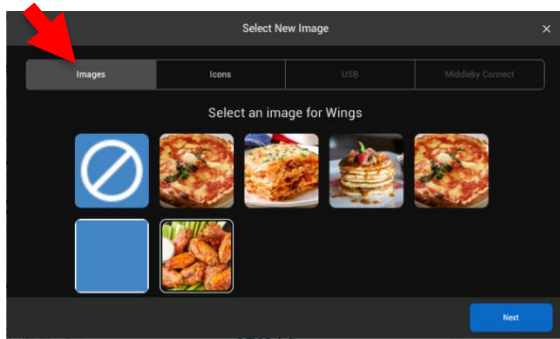

Figure 44 - Edit Recipe Picture
- Click on the  icon to navigate to **Select New Image** screen **Figure 44**